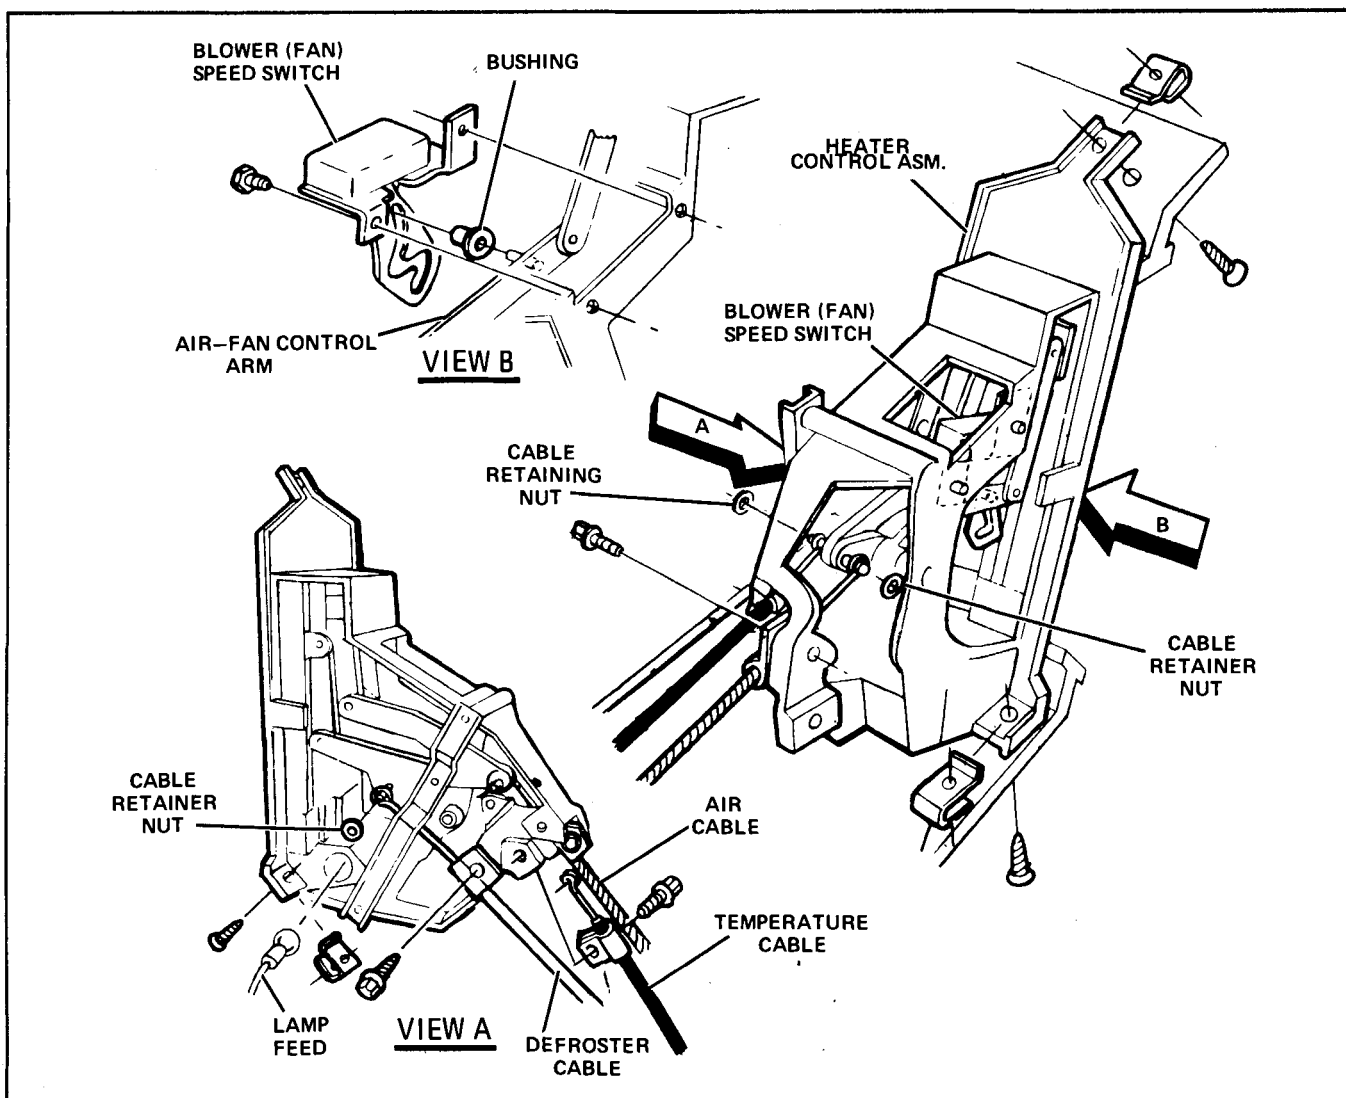

Fig. 1-15 Heater Control Panel - X Series
5. Remove retaining screw and nut and disconnect cable at control (Fig. 1-15).
3. Remove (3) heater control to instrument panel attaching screws and lower heater control assembly from instrument panel.
5. Disconnect electrical connectors and remove control panel (Fig. 1-15).